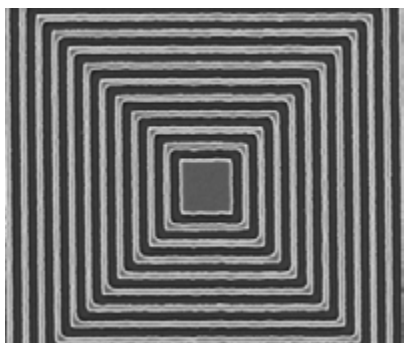

Fig. 4 - 1/2µm pitch pattern. Overall size is 40µm. 4 of these patterns are located 1 mm above the "MM" just below the pattern center.
- Magnification is simply defined as the ratio of the image size to object size (be careful to use the same units - µm, mm, nm, etc.). Please carefully note the locations of the above magnification measurements relative to the patterns in figure 4, 5, and 9.